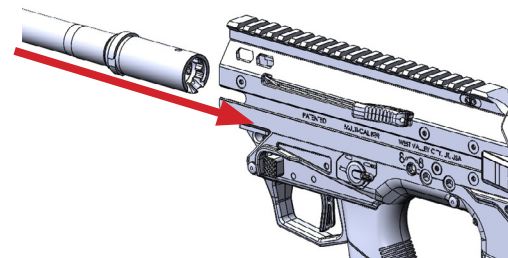

Fig. h-1
- Insert the barrel assembly into the MDR receiver, barrel extension end first with the gas block rail at the 12 o'clock position. When properly seated in the receiver, there should be a 1/16" (1.5mm) gap between the front edge of the upper receiver and the back edge of the gas block rail tower. (Fig. h-1)